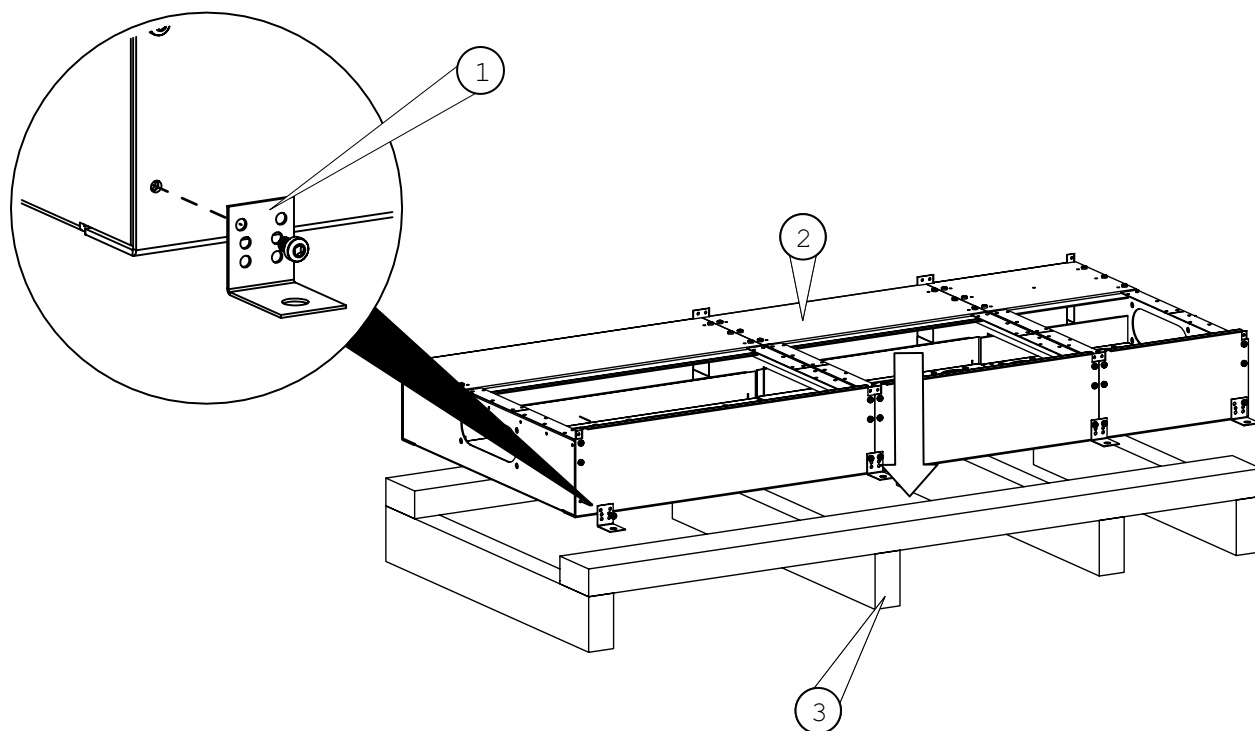

Fig. 2.5. Fastening the base to a wooden transport frame with base fastening lugs.
The base is fastened to a transport frame using base fastening lugs (1). The transport frame can be made using, for instance, 50x100 mm timber as shown in Fig. 2.5.